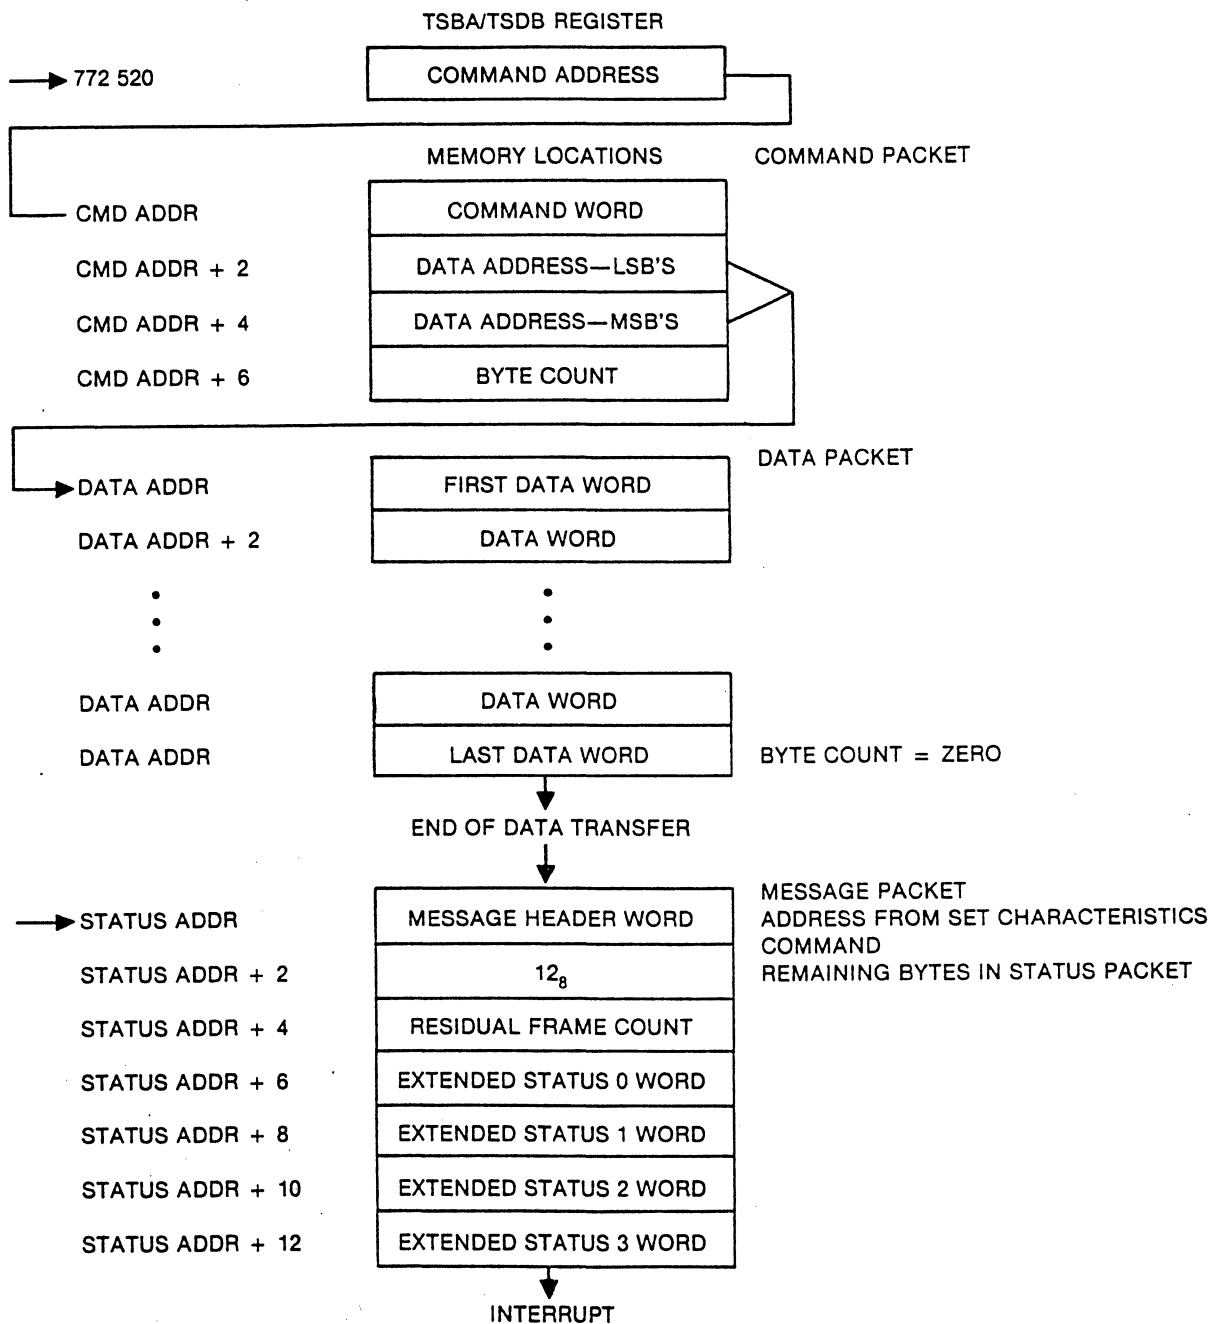

Figure 4-1. Read/Write Command Sequence
5. TSBA contents access a command word—read or write command. Read/write command packets comprise four successive memory locations (eight bytes) that contain (see Figure 4-1):